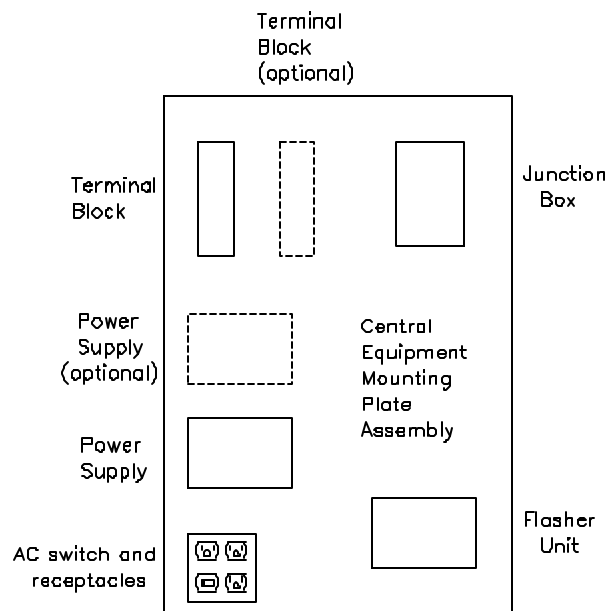

Figure 1. VNS Central Equipment
Paragraphs 2.1 through 2.5 explain how to install the various components within the central equipment. Figure 1 illustrates the location of the components on the mounting plate.
- a. Position the flasher unit as required and mark holes for drilling (see Figure 1). Drill holes.
- a. Position the junction box as required and mark holes for drilling (see Figure 1). Drill holes.
- a. Position the terminal block(s) as required and mark holes for drilling (see Figure 1). Drill holes.
The VNS system uses the HM-24-3.6A Power Supply. For basic systems, one power supply is required. Using Figure 1 as a reference, position the power supply in the middle left-hand side of the mounting panel. Install per the following steps:
If an additional power supply is required, mount it above the first power supply on the mounting panel as shown in Figure 1. Mount the power supply as outlined above.